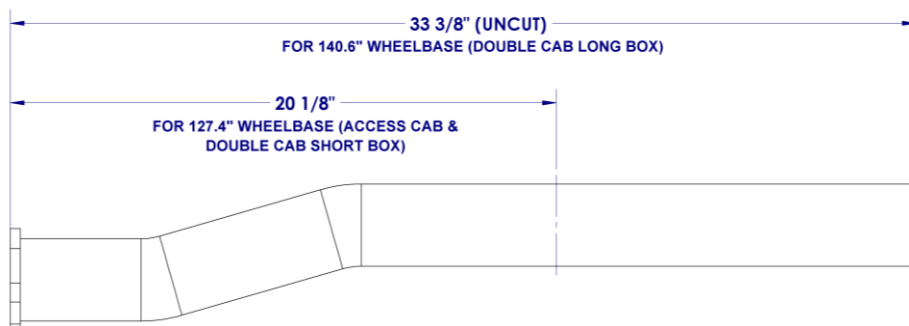

Figure 2
4. Install the **Muffler** onto the front pipe, leaving the clamps loose. **Refer to Figure 2.** Place the **3" Clamp** over the muffler outlet.